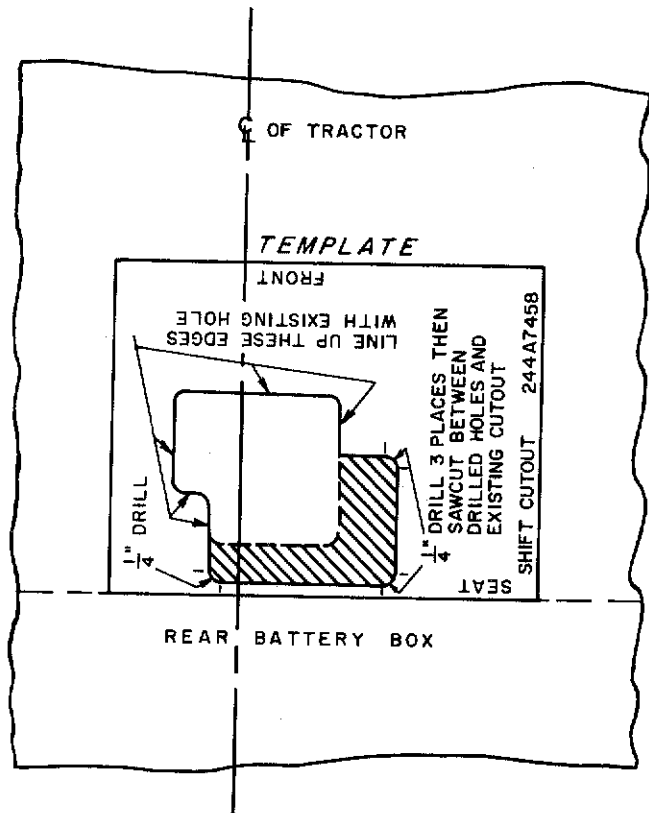

Figure 1
2. Place the template over the existing frame cut-out for the shift lever on the top side, and outline the area to be removed as indicated by the template by drilling 1/4-inch corner holes and then sawing between the holes. See Figure 1.